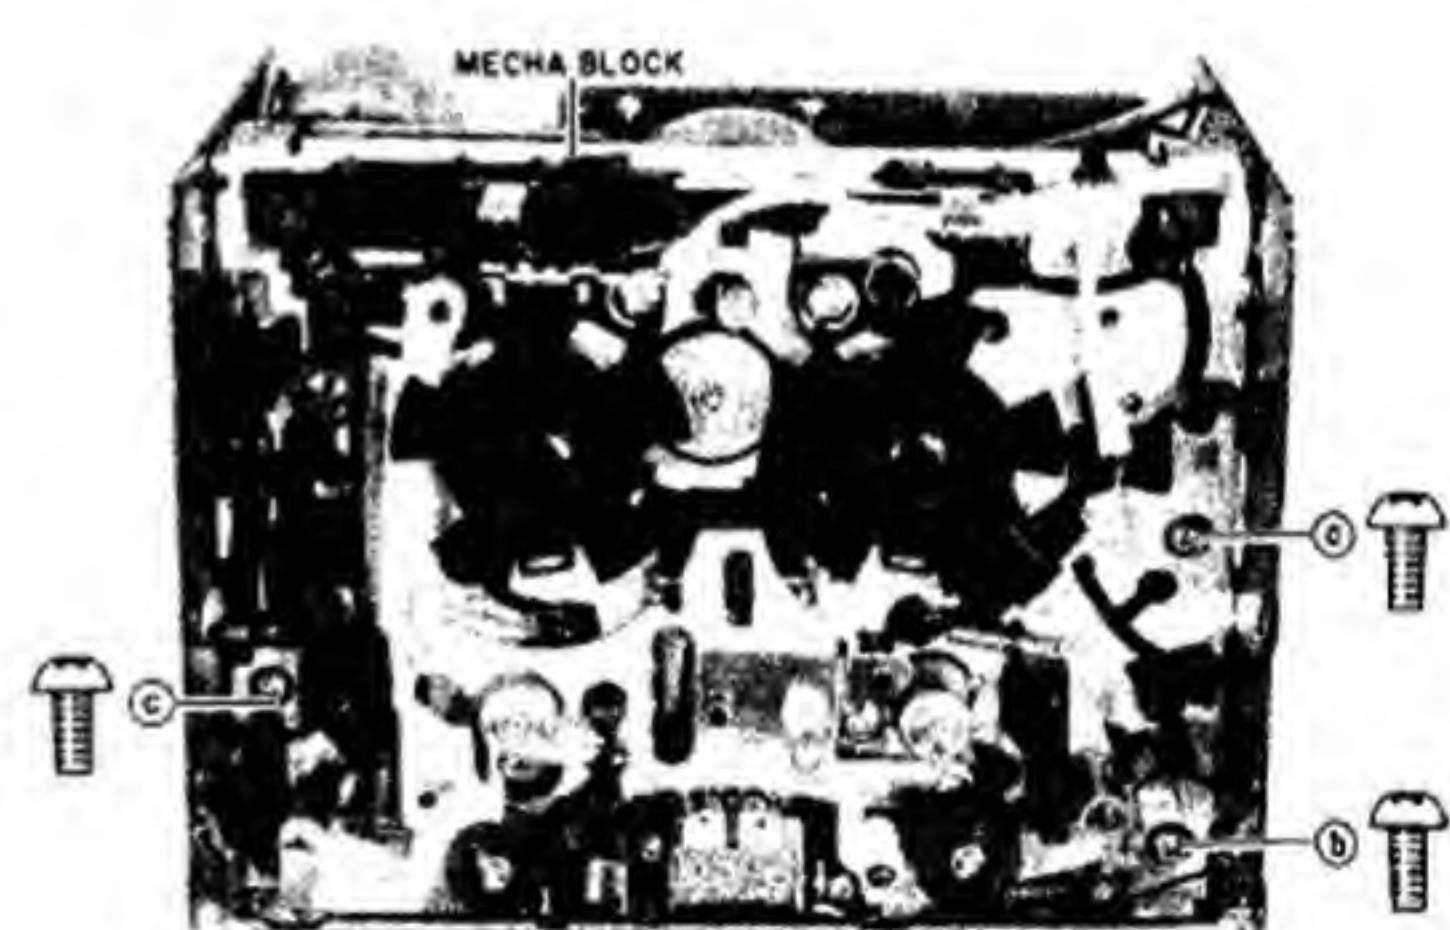

Fig. 4-6
- 3) Remove motor block securing screws ④, ⑤ and ⑥ from the mechanism block front side. Remove the motor block from the mechanism block. (See Fig. 4-6.)